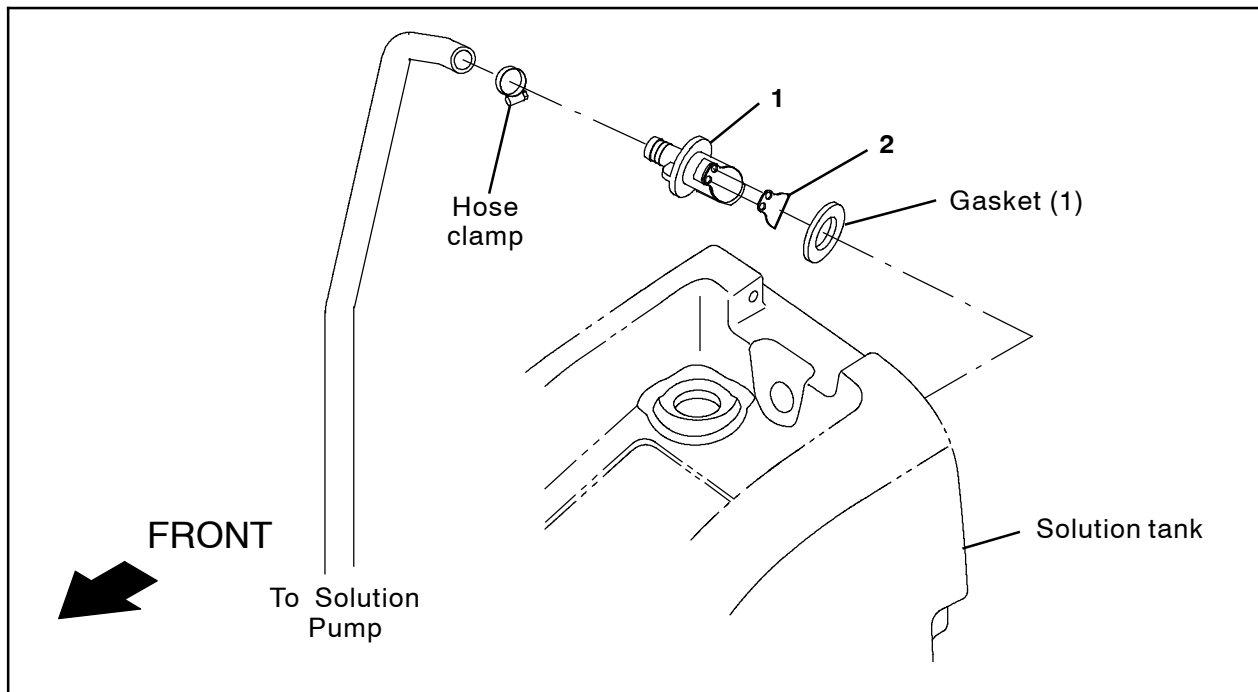

FIG. 3
1. Disconnect the hose to the solution pump from the ES check valve assembly. Set the hose clamp aside. (Fig. 3)
2. Remove the ES check valve assembly from the solution tank. Discard the ES check valve assembly. (Fig. 3)
- Slide the gasket included with the check valve assembly onto the ES check valve assembly. (Fig. 3)
- Install the previously assembled ES check valve assembly into the solution tank. (Fig. 3).
- Connect the hose routed to the solution pump to the ES check valve assembly. (Fig. 3)